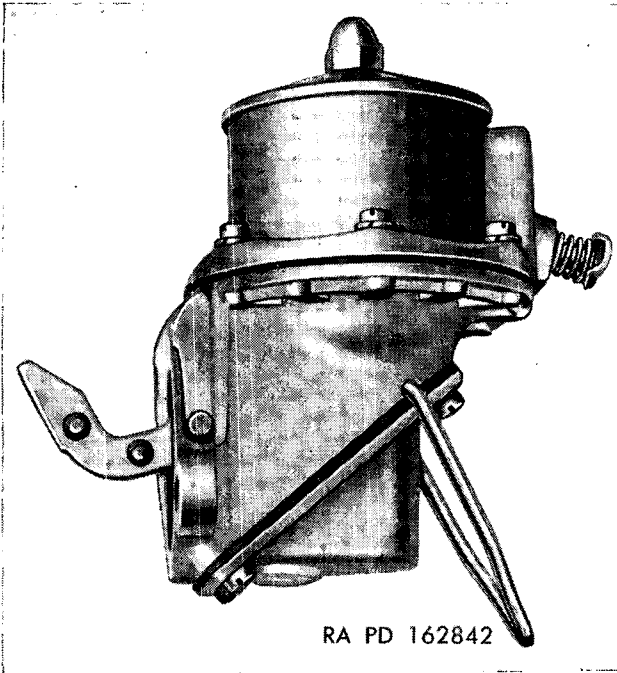
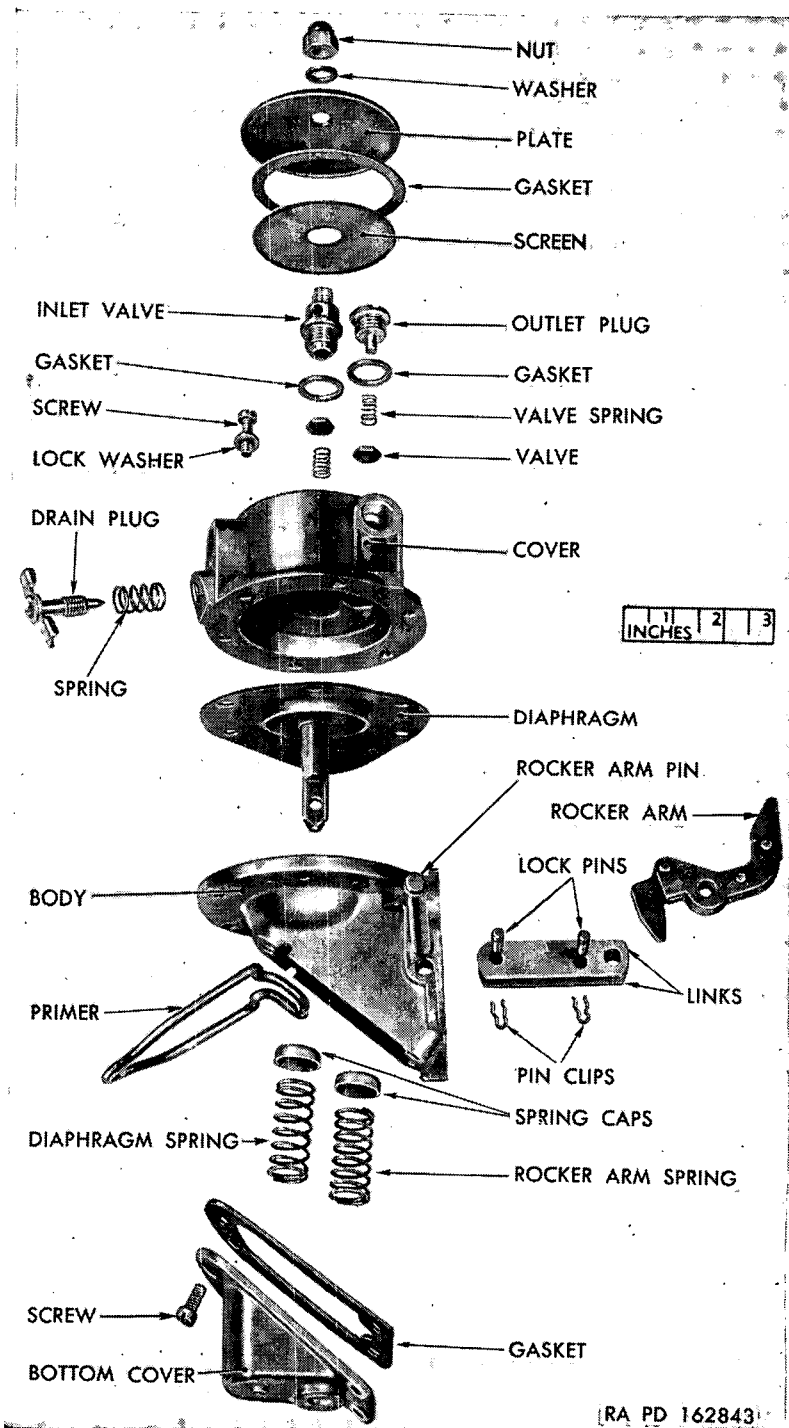

Figure 16. Fuel pump, series S.
Figure 17. Fuel pump—disassembled (typical series S construction).
- (1) Mark edges of top cover and body (fig. 17) of series S fuel pump (fig. 16) with a file. Mark at heat shield stud, if used.
### a. *Assemble Body* (fig. 17).